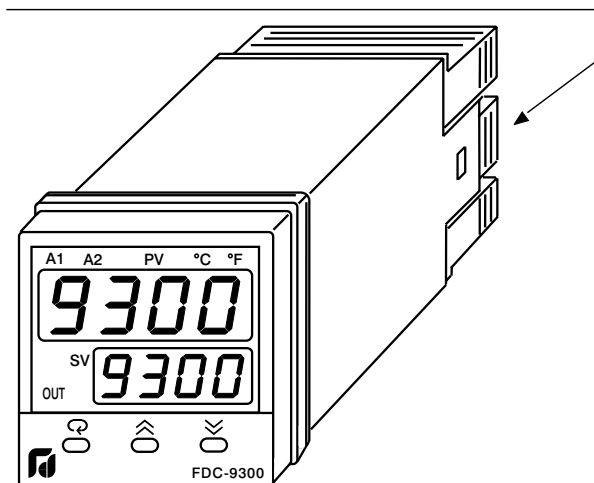

Figure 5.1
(4) Dismantle the controller according to Figure 5.1 .